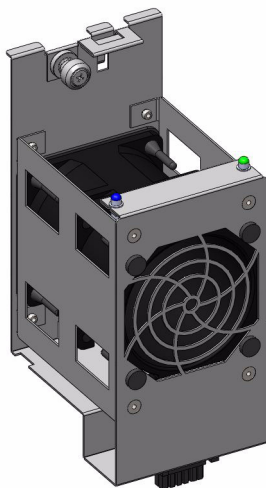

Figure 1-17 Fan Assembly Module (each contains two impellers)
- Six (newly-designed, higher-capacity) fan assemblies (Figure 1-17);